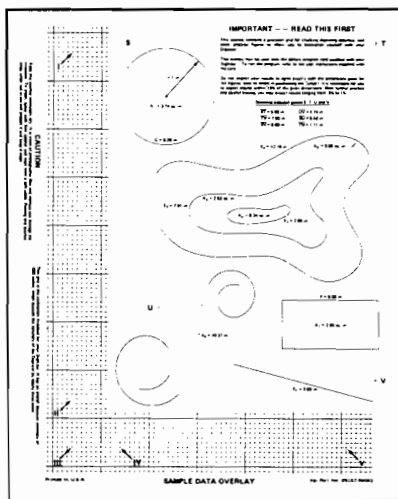

Figure 4
20. Place the Sample Data Overlay, -hp- Part No. 09107-90002, on the digitizing area (see Figure 4 below). Place a piece of tape across the upper left-hand corner of the overlay. Prepare three other short pieces of tape for the other corners; they will be used later.